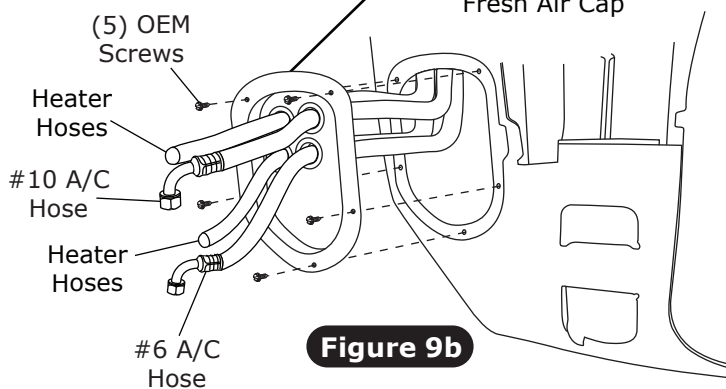

Figure 9b
4. Secure kick panel fresh air cap using (5) OEM screws as shown in Figure 9b, below.